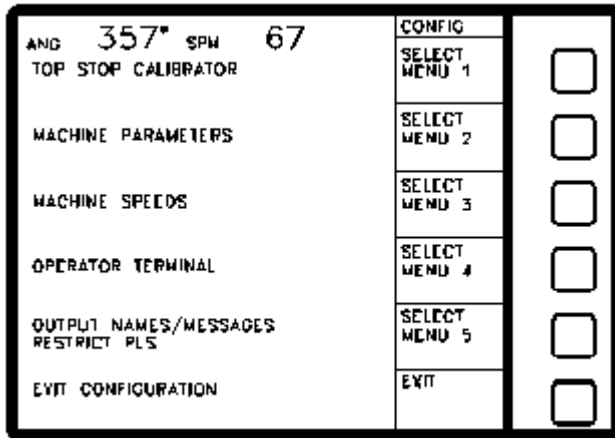

Figure 3.1: OmniLink 5000 Main Configuration Screen
- ◆ With the Run/Prog keyswitch in the “Prog” position, push the “CONFIG” softkey. Note that this softkey will not be present unless the OmniLink is in program mode. After entering the access code, a screen similar to Figure 3.1 should appear.